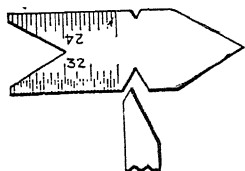

FIG. 183.—Center gauge. A thread tool ground as shown will cut close to a shoulder if desired.
1. Grind the thread tool accurately to gauge (center gauge, Fig. 183).